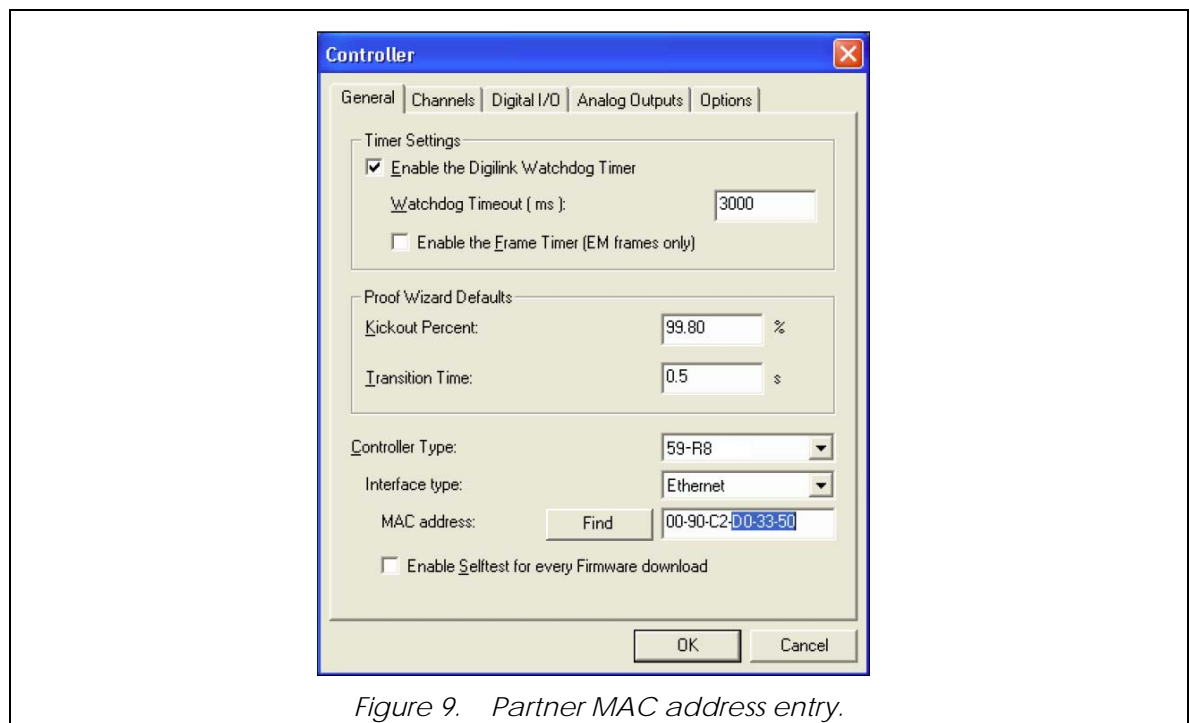

Figure 9. Partner MAC address entry.
- vii. In addition to an IP address, the EFI uses a unique MAC address. Click the Find button next to the MAC address field; the software will search for the device, get the MAC address and populate the field. Alternately, you can enter the MAC address manually. The MAC address can be found on the label affixed to the front of the 59-Series control unit (usually below the Ethernet connection). The MAC address is case sensitive. The first six digits (00-90-C2) indicate that the EFI is an Instron device. The last six digits are unique to that EFI to ensure that Partner only communicates with that specific EFI (Figure 9).